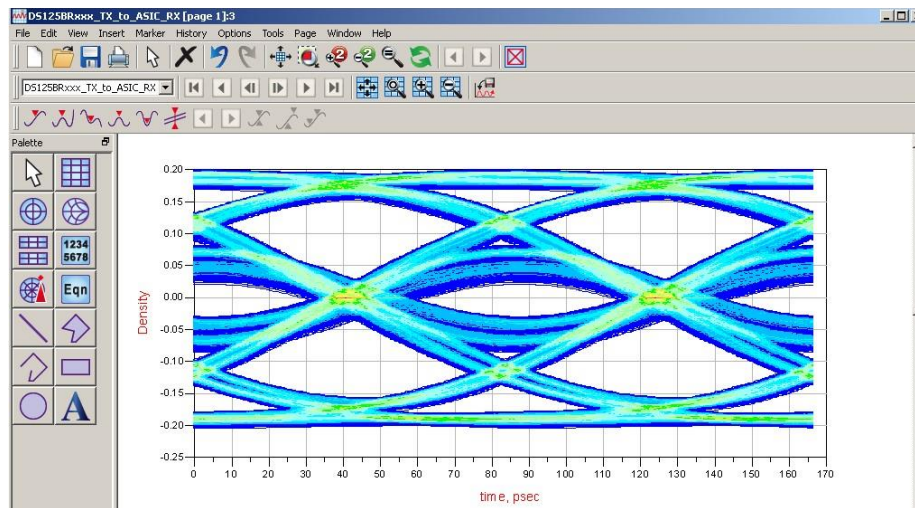

Figure 6: Example eye plot for DS125BR401 TX to ASIC RX input
12. Once the simulation completes, plot the eye (a.k.a. Density). Figure 6 shows an example eye plot at the output of the channel. The quality of the eye generated in this second simulation will be affected by: